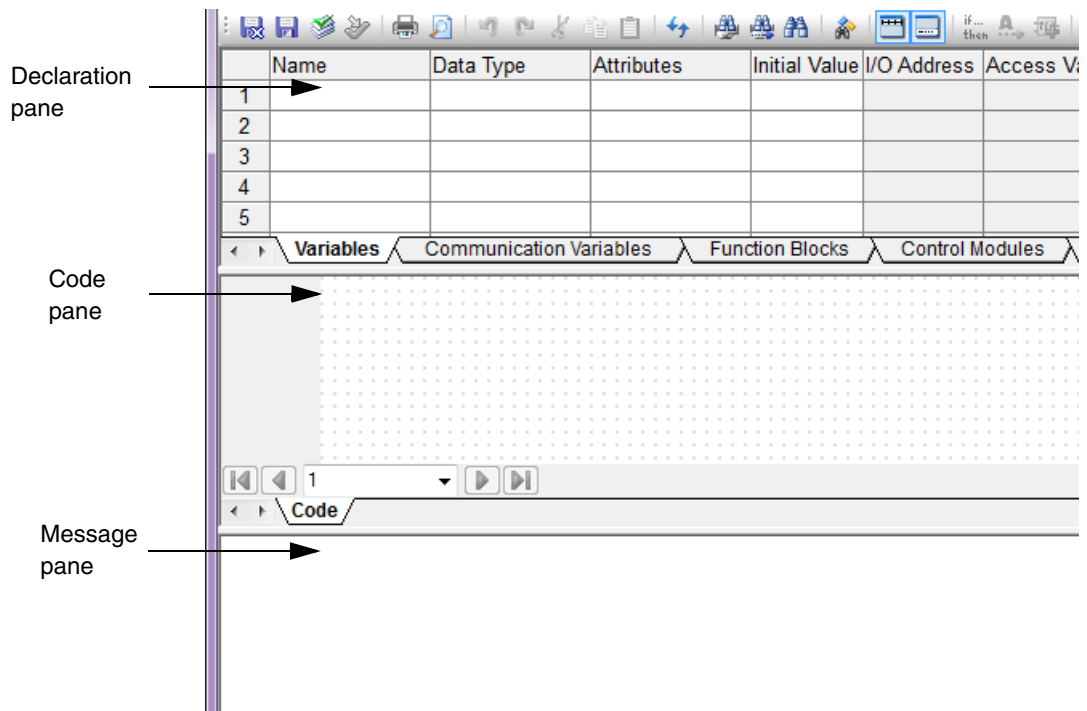

Figure 14. The editor for Diagram2.
- The Diagram editor is divided into three panes: the declaration pane, the code pane, and the message pane. (See Figure 14).